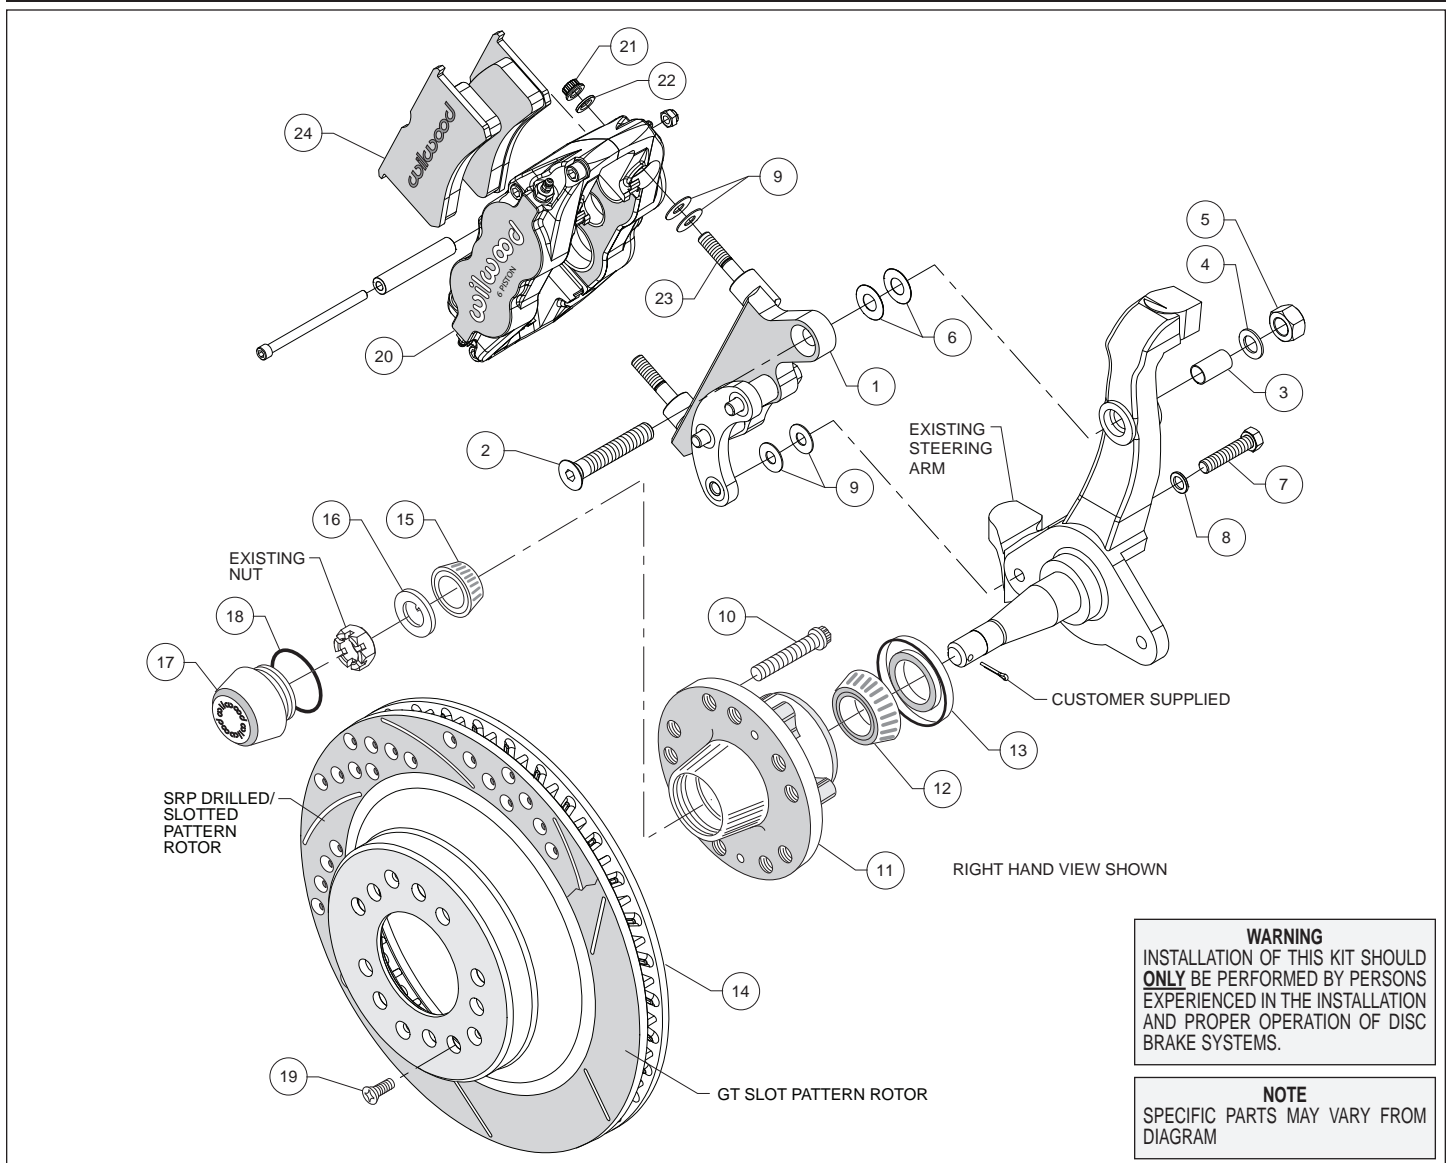
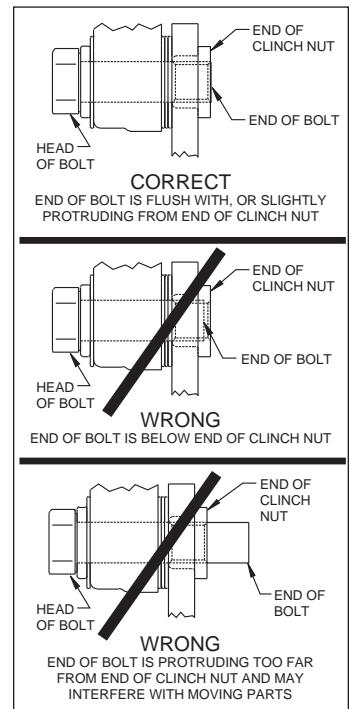

Figure 1. Typical Installation Configuration
Figure 3. Clinch Nut Engagement Diagram
Assembly Instructions (numbers in parenthesis refer to the parts list and Figure 1 on the preceding pages): **CAUTION:** All mounting bolts must fully engage clinch nuts. Be sure to check that all bolts are either flush or protruding through flanged side of clinch nut after shimming, Figure 3.
- The caliper bracket (1) should initially be installed with clean, dry threads on the mounting bolts. The bracket has been assembled at the factory for alignment purposes. Loosen the two bolts that secure the brackets together so that the bolts are hand tight only. This will enable the bracket assembly to be adjusted to accommodate various spindle tolerances during assembly. Insert sleeve (3) into top mounting hole on the spindle, Figure 1. Orient the bracket as shown in Figure 1 and install using bolt (2), washer (4), and nut (5), in the upper hole, as shown in Figure 1 and Photo 1. Initially use two .032" thick shims (6) on the upper bolt between the bracket and spindle, Figure 1. Install bolt (7) and washer (8) in the lower hole, Figure 1. Initially use two .035" thick shims (9) between the bracket and spindle face. Temporarily tighten the mounting bolts, followed by the two bracket-to-bracket bolts. **NOTE:** The bracket must fit squarely against the mounting points on the spindle. Inspect for interference from casting irregularities, machining ridges, burrs, etc. Later, after the bracket and caliper alignment has been checked, the bolts will be secured using red *Loctite*® 271.
- Check that the bracket (1) is aligned parallel to the rotor (14), Photo 2, by assembling and installing the hub and rotor per the steps below. If not, parallel adjust by adding or subtracting shims (9) on the lower bolt between the spindle and bracket, Figure 1.
- Install wheel studs (10) into the hub (11), Photo 3. Torque to 77 ft-lb. **NOTE:** There are two five lug patterns in the hub (5 x 4.50 and 5 x 4.75). Ensure the correct hub stud pattern is being used to fit the wheel application.
- Pack the large inner bearing cone (12) with high temperature disc brake bearing grease (available from your local auto parts store) and install into the backside of the hub (11), Photo 4.
- Install the grease seal (13) by pressing into the backside of the hub (11), flush with the end of the hub, Photo 4.
- Pack the small outer bearing cone (15) with high temperature disc brake bearing grease and install into hub (11). Slide the hub assembly onto the spindle. Secure using spindle washer (16)
- Screw dust cap (17) into hub (11), Photo 6. Friction created by the o-ring (18) on the dust cap keeps it from unscrewing. **NOTE:** *The O.D. of the existing OEM spindle washer may be larger than the I.D. of the dust cap not allowing it to seat against the hub face. Therefore, use the spindle washer (16) supplied with the kit instead of the OEM washer.*
- Slide the rotor (14) onto the hub (11) taking care to align the small countersunk holes in the rotor with the small threaded holes in the hub. **NOTE:** *The rotor must fit flush against the hub face or excessive rotor run out may result.* Install three flat head screws (19) through the small holes in the rotor, Photo 6, and torque to 85 in-lb.
- NOTE:** *This kit contains distinct right and left hand calipers that must be mounted in a specific direction, as described below.* Lubricate the caliper mounting studs (23) with lightweight oil. Initially place two .035" thick shims (9) on each stud between the caliper and the bracket, as shown in Figure 1 and Photo 7. Mount the caliper (20) onto the bracket (1) using lock nuts (21) and washers (22), Figure 1. Ensure that the caliper is mounted so the largest pistons are at the rotor exit end of the caliper, in relation to the direction of rotor rotation. Temporarily tighten the lock nuts and view the rotor through the top opening of the caliper. The rotor should be centered in the caliper, Photo 8. If not, adjust by adding or subtracting shims (6 upper bolt, and 9 lower bolt) between the spindle and the caliper bracket. Always add or subtract the same amount of shims on each of the two mounting bolts to keep the bracket parallel to the rotor. **NOTE:** *The end of the lower bolt must be flush with, or slightly protruding from, the head of the clinch nut, as shown in Figure 4.* If necessary place spare shims between washer (8) and spindle to achieve the proper clinch nut engagement.
- Remove the caliper center bridge pad retainer bolt, nut, and tube from the caliper. Insert the brake pads (24) into the caliper, with the friction material facing the rotor, as shown in Photo 9. Check that the top of the brake pad is flush with the outside diameter of the rotor, Photo 10. If not, adjust by adding or subtracting shims (9) between the caliper and the bracket. After the caliper pad height is set, torque the caliper lock nuts (21) to 30 ft-lb. Secure the brake pads in place with the center bridge pad retainer tube, bolt, and locknut. The locknut should be snug without play in the bolt or tube. Be cautious not to over tighten.